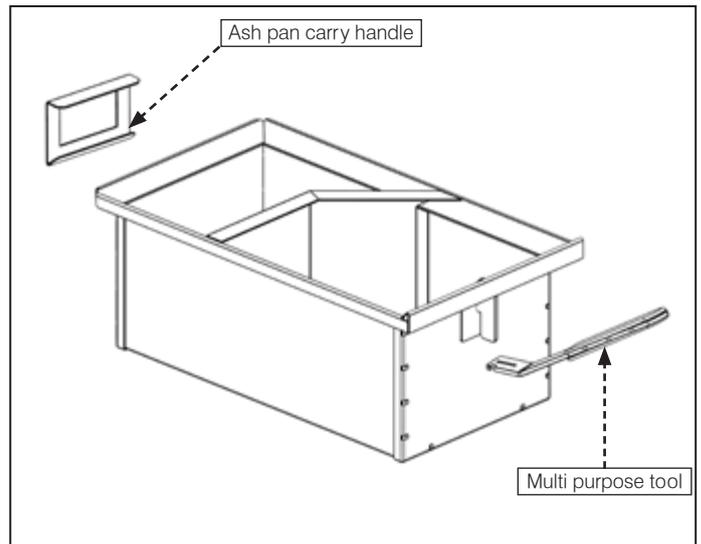

Figure 16: Removal of ash pan from boiler
- When carrying the ash pan, use both the multi-purpose tool and the ash pan carrying handle (also provided with the boiler). Refer to Figure 16.